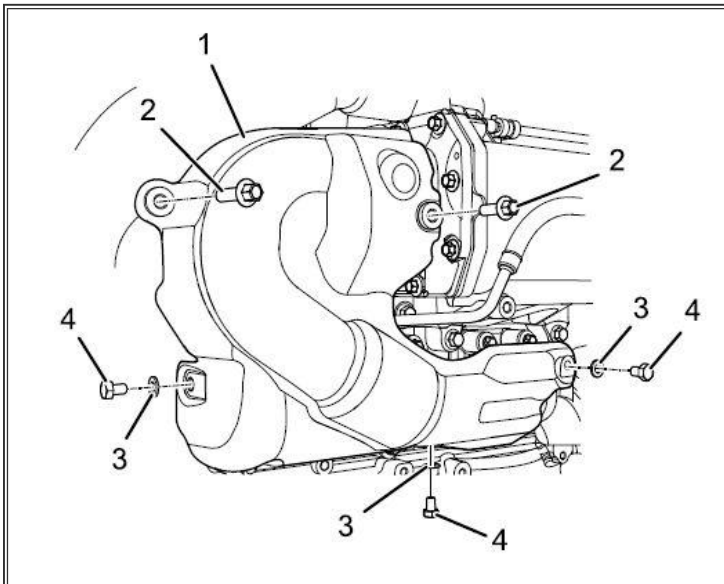

Figure 1: Heat Shield (Cylinders 4 - 6)
- Item 2: M8 x 25 heat-resistant bolt (2)
- Item 3: 8.4 x 16 x 1.6 washer (3)
- Item 4: M8 x 12 bolt (3)
7. Remove heat shield (cylinders 4 - 6) (**Figure 1**, Item 1).